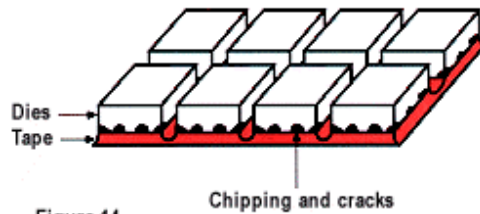

Figure 14
**Problem C:** Chipping and large cracks at the wafer contact with the tape (figure 14) not related to ring type vacuum chucks.